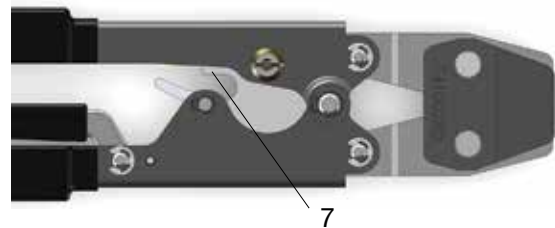

Fig. 7: Stop point
1. Close handles of manual pincer to stop point (Fig. 7).